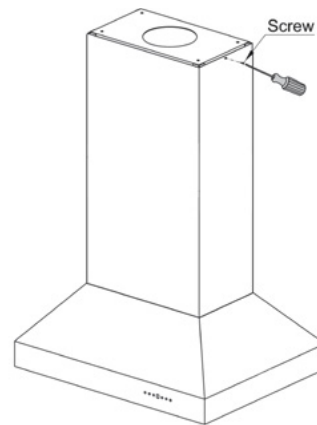

Figure 5
- Slide top chimney piece up over the mounting bracket on the ceiling and secure it in place with the provided screws. *Figure 5*